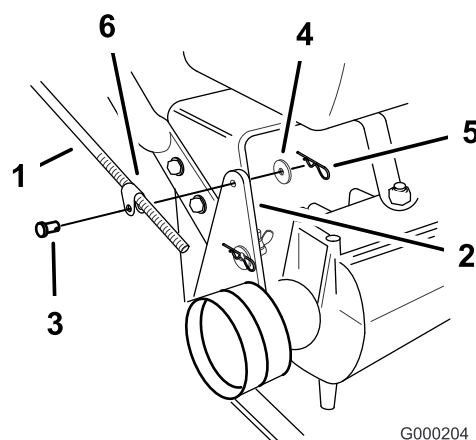

Figure 17
1. Remove the hairpin cotter, washer and clevis pin securing control rod fitting to the idler bracket (Figure 17).